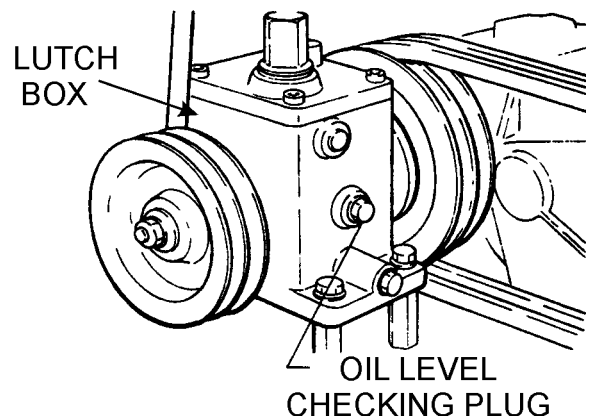

Figure 12. Clutch Box Oil Level Check
2. Remove the level plug and check oil level (Figure 12).